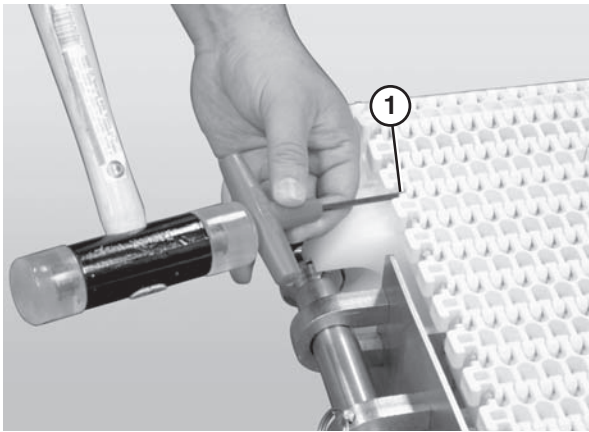

Figure 53
2. Use a punch and hammer to push the belt rod out by striking the rod end opposite the retaining head (Figure 53, item 1).